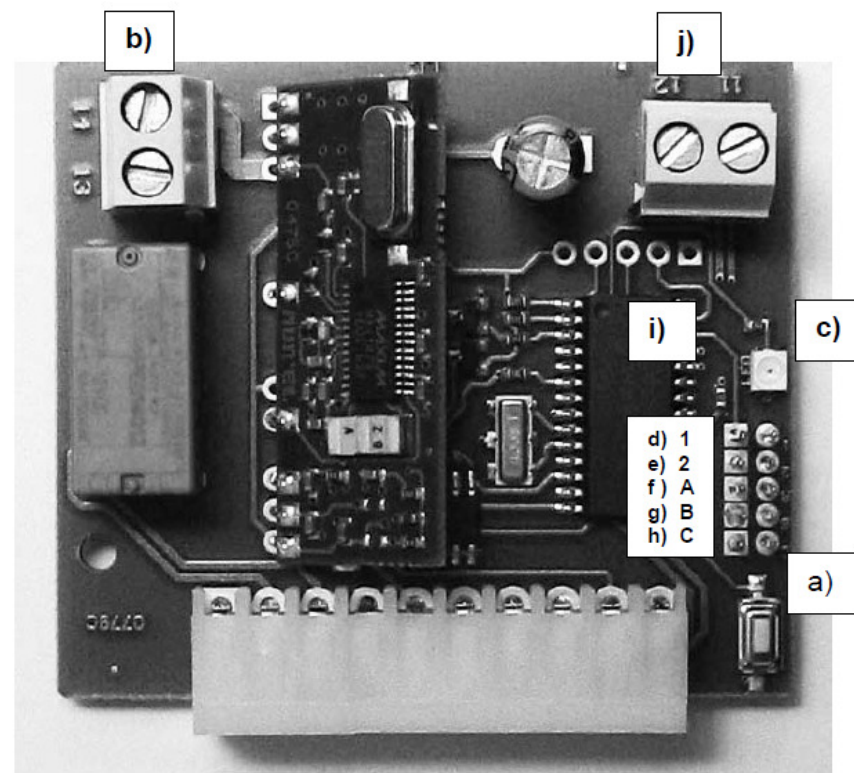

Figure 5-4
Figure 5-4 shows the different elements:
This mode of operation is called "ON-OFF". To activate this mode it is required to install a permanent bridge on the jumper of the corresponding relay (see figure 5-4 and 5-5).
This mode is activated when a permanent bridge is inserted in jumper B of the receiver (see figure 5-4 and 5-5). In this mode it is no longer possible to insert a code from a distance, activate the ON-OFF mode, or cancel a code.
- Insert the bridge on jumper “1” of the 2-channels receiver (see figure 5-4).